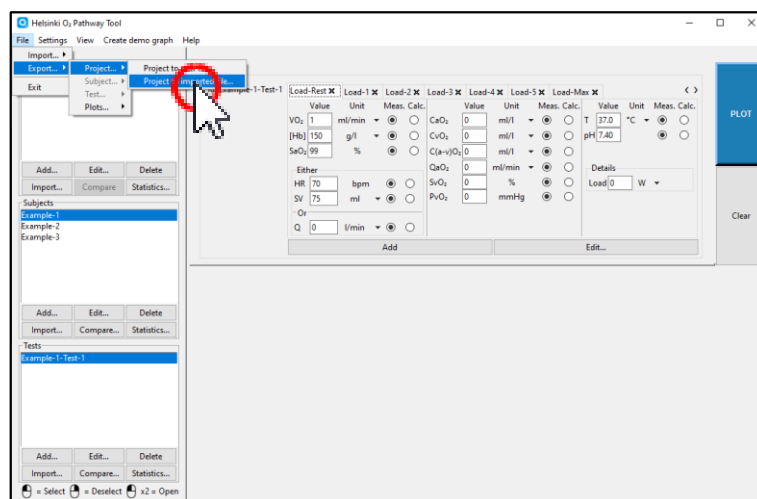

Figure 50
4. Select an exporting method from the “File” menu in the main menu bar (figure 50).